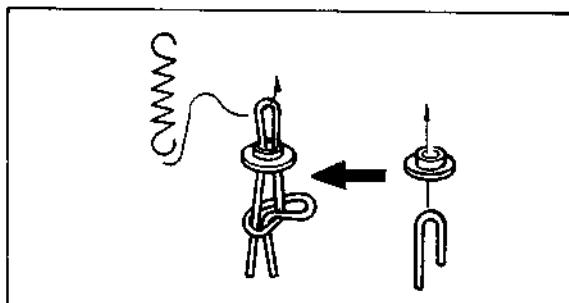
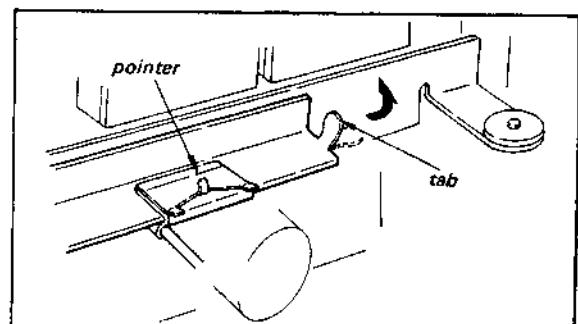
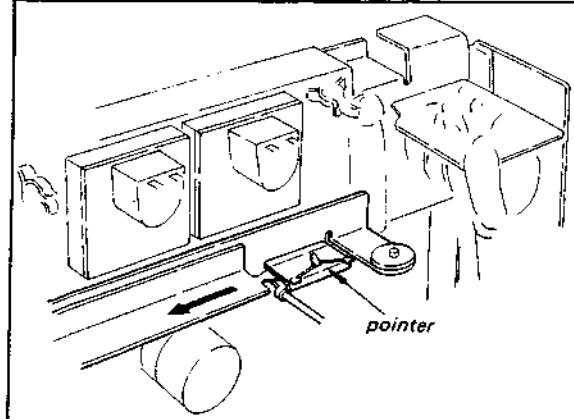

Fig. 2-5. Details of dial cord finish
Fig. 2-7. Dial pointer installation (2)
Fig. 2-6. Dial pointer installation (1)
- Note:** At the finish point, pass the doubled end of the cord through the eyelet (see Fig. 2-5) and tighten the cord and squeeze the eyelet so that the spring is under tension. Make two knots in the cord end to keep it from slipping out of the eyelet as shown in Fig. 2-6.
3. Put the pointer on the pointer guide as shown in Fig. 2-6 and bend the pointer guide tab as shown in Fig. 2-7, if necessary.